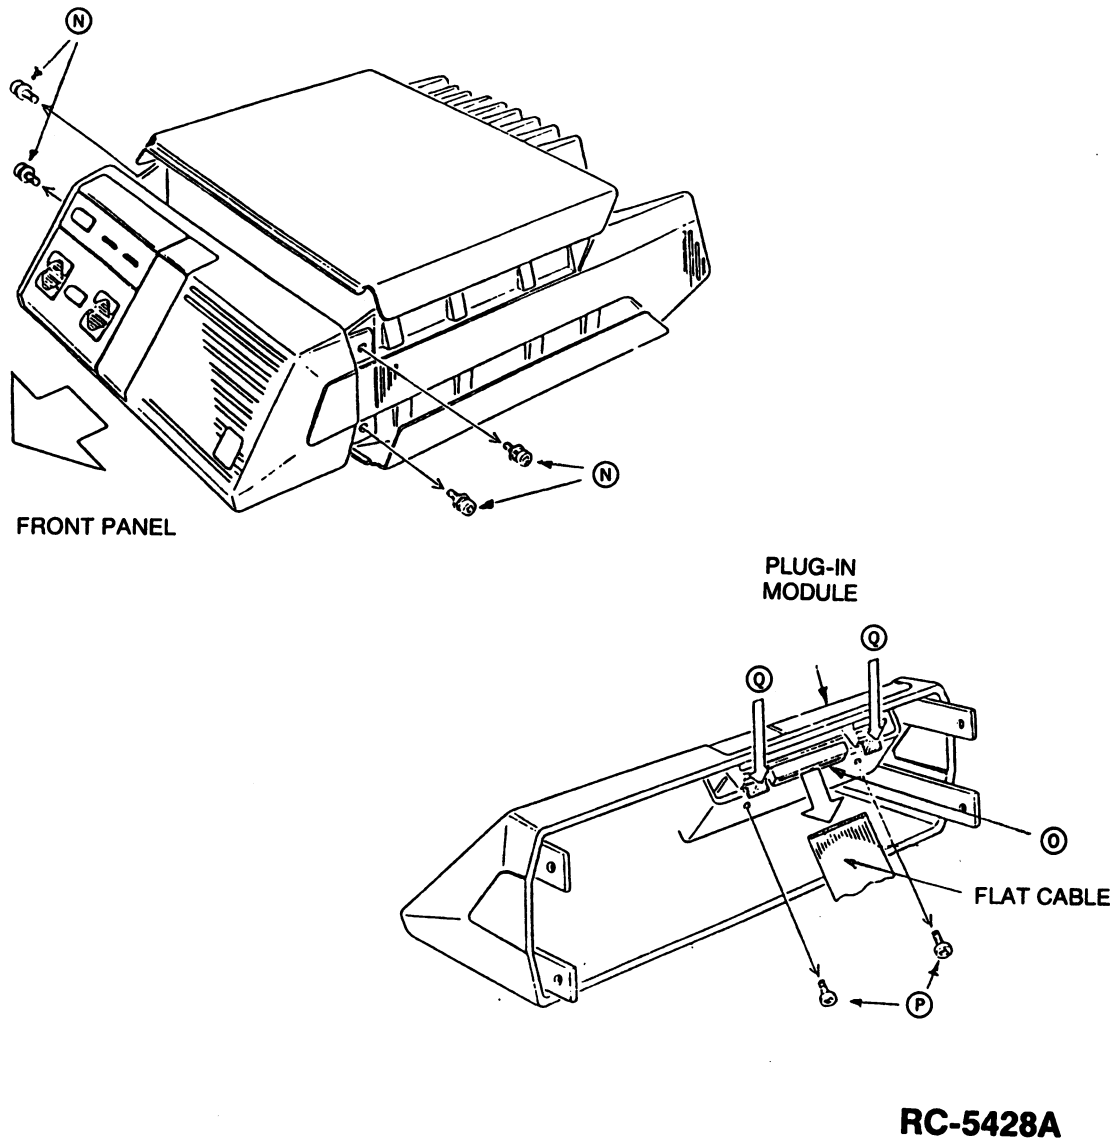

Figure 4 - Disassembly Procedure (Front Panel)
- 1. Remove the four (4) screws (N) securing the front panel to the frame assembly (refer to Figure 4).
- 4. Carefully disconnect the ribbon cable connecting the Front Panel/Control unit to the Control 1/Synthesizer Board at (O).
- 5. Remove the two (2) screws located at (P) .
- 6. While pushing the lock tabs at (Q) remove the Control Panel - toward front.